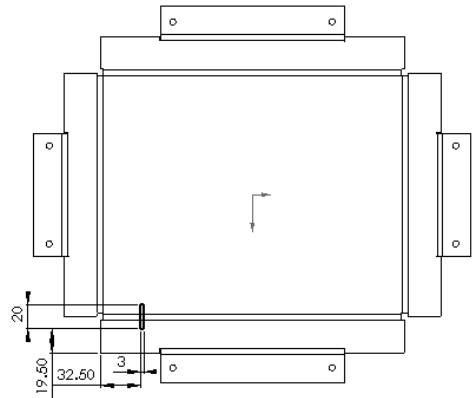

Figure 16-158 Sketch of the cut feature
3. Select the top face of the model and invoke the sketching plane. Next, draw the sketch of the cut feature, as shown in Figure 16-158.